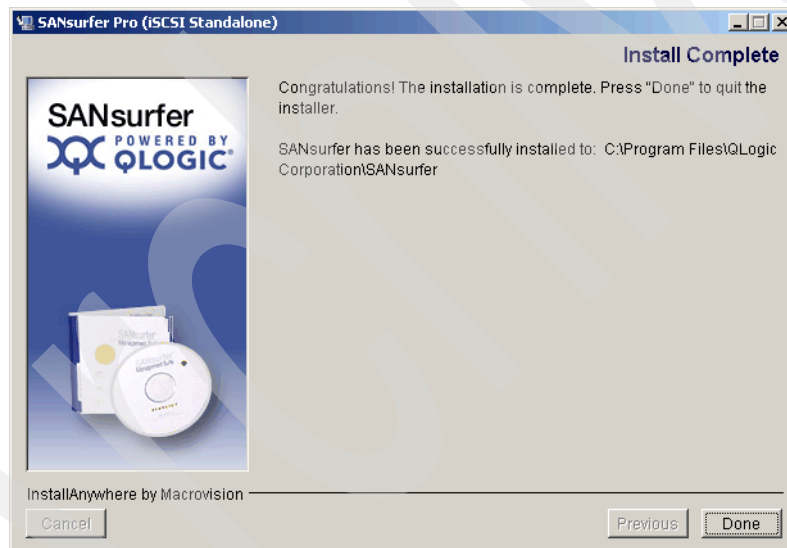

Figure 21-19 SANsurfer installation -Installation complete
12. After installation has completed, click **Done** (Figure 21-19).